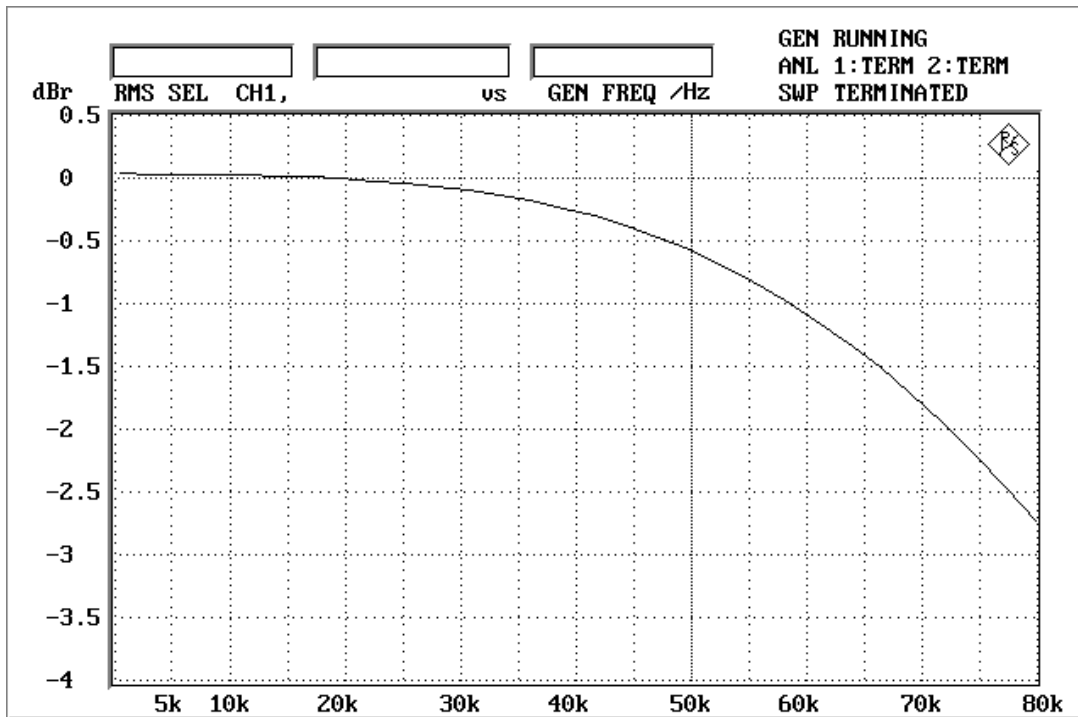

Figure 22. Frequency Response (fs=192kHz; 0dBFS input)
- Figure 22. Frequency Response (0dBFS input)